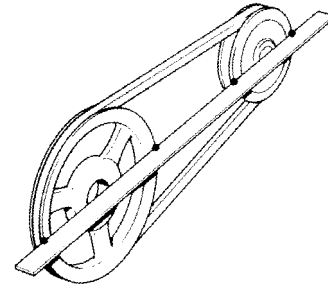

Fig. 28 V-belt pulley adjustment
- Check that after tension adjustment and tightening the motor mounting nuts, both pulleys are in a straight line to avoid excessive wear of the V-belt. Hold a straight edge against compressor and motor V-belt pulleys as shown in Fig. 28: edge must be parallel to the v-belt.